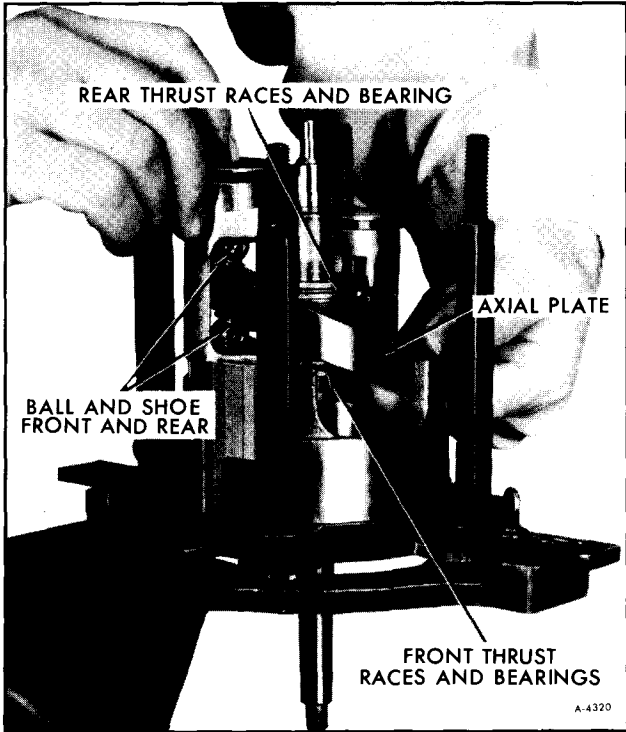

Figure 91—Installing Second Piston
4. Repeat this operation for Pistons No. 2 and No. 3 (figure 91).